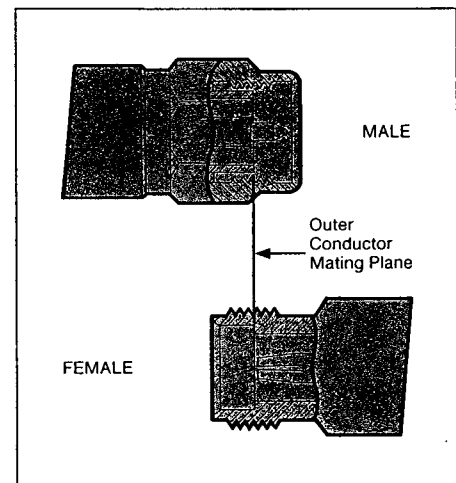

Figure 2. Precision 3.5 mm connectors
**Sexed Connectors.** When using sexed connectors, especially precision 2.4 mm, 3.5 mm and SMA connectors, pay special attention to the female center conductor contact fingers (Figures 2, 3, and 5). These are easily bent or broken, and damage to them is not always easy to see. A connector with damaged contact fingers will not make good electrical contact and must be replaced.